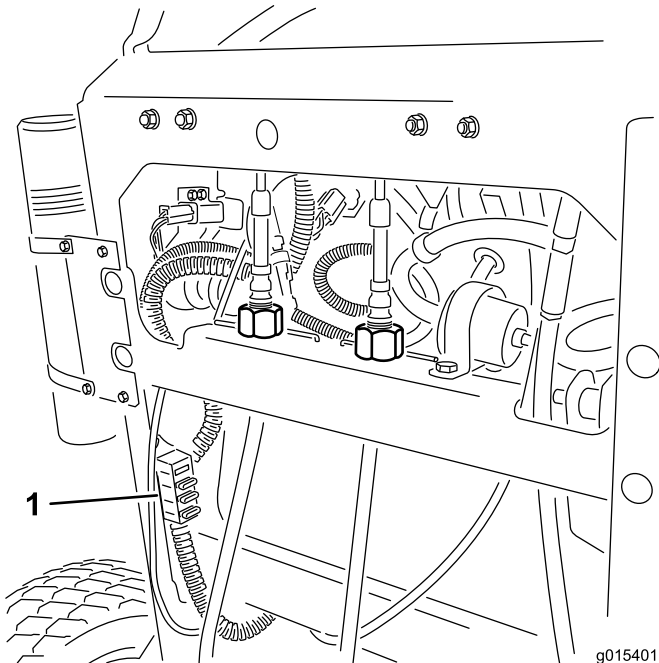

Figure 55
2. Pull out on the fuse to remove or replace it (Figure 55).
Note: Ensure the correct size fuse is installed with the correct wire color as shown in Figure 55.